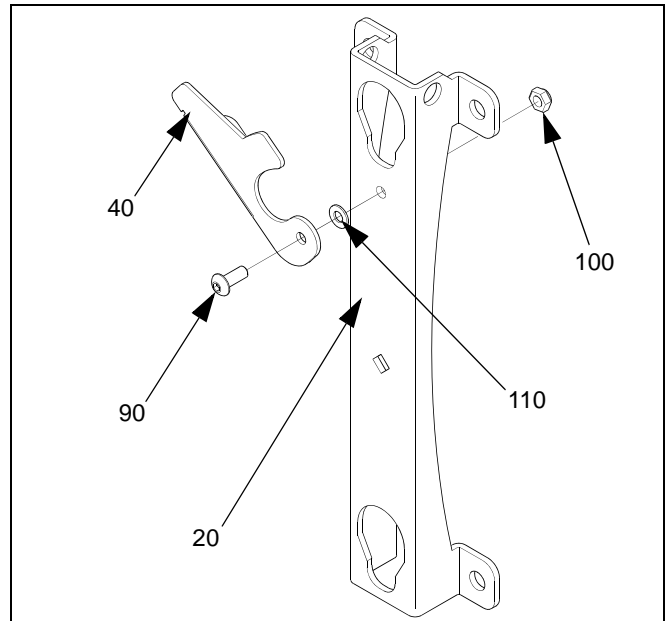

Figure 2:
1. Assemble one BHCS (90) through latching flag (40) and one spacer (110). (see Figure 2)
2. Slide BHCS (90) through upright (20).
3. Secure latching flag (40) to upright (20) using one locknut (100). (see Figure 2)